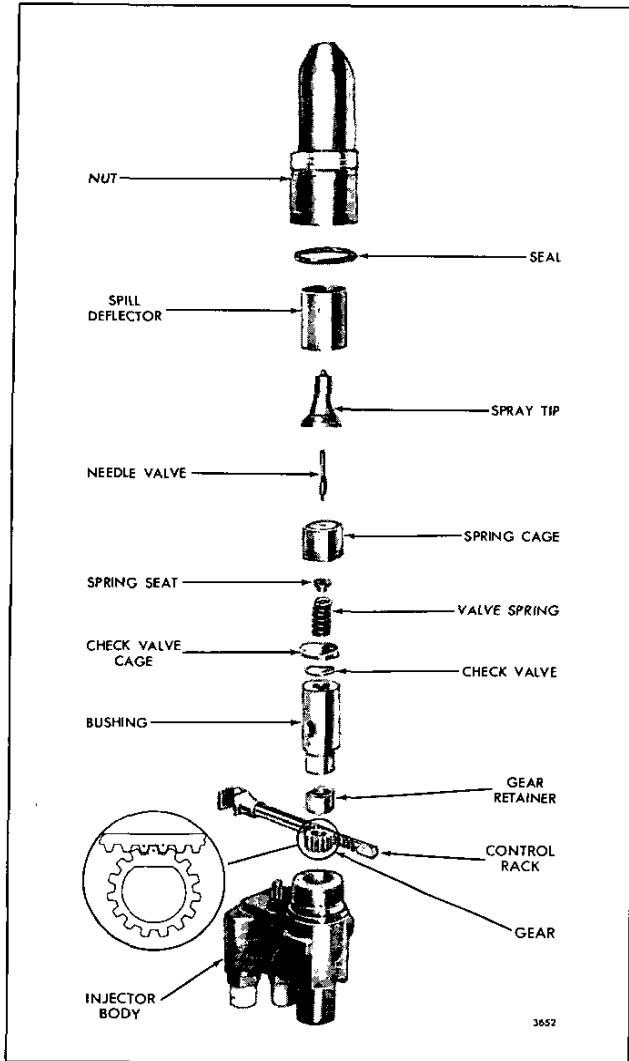

Fig. 14 – Injector Rack, Gear, Spray Tip and Valve Assembly Details and Relative Location of Parts
6. Refer to (Fig. 14) and remove the spill deflector. Then, lift the bushing straight out of the injector body.